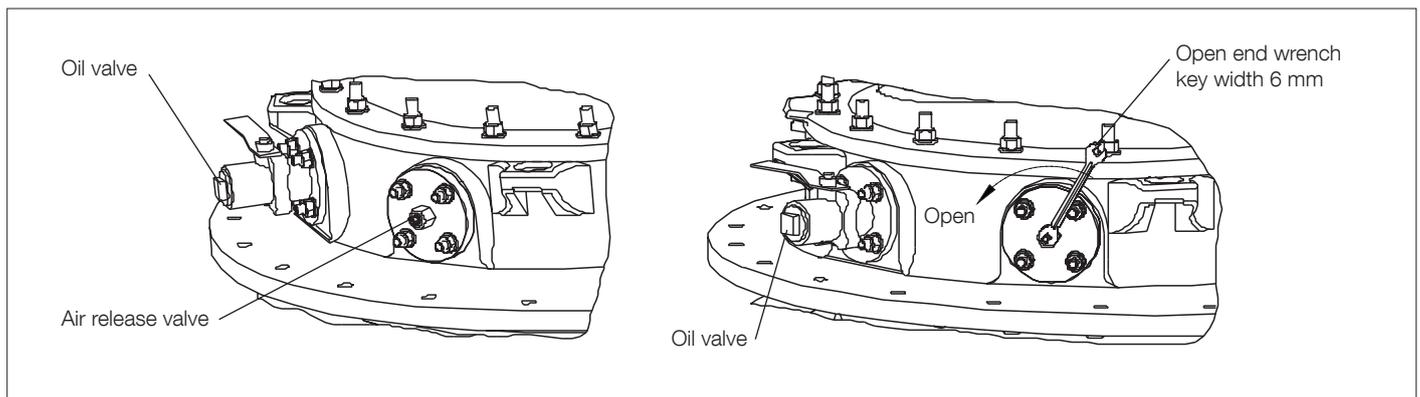

Fig. 10. Air release valve (position may be on another vertical flange).
See Fig. 10.
2. Connect the oil pump to the oil valve. (For connection dimensions, see the dimension drawing for the on-load tap-changer), see Fig. 10.